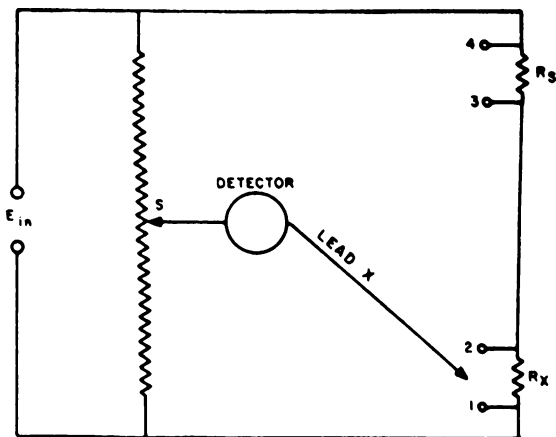

Figure 1-13. Low resistance measurement.
The Kelvin-Varley divider is used to calibrate low resistances as shown in figure 1-13. The divider setting,  $S$ , indicates the ratio of output voltage,  $E_{out}$ , to input voltage,  $E_{in}$ . The voltage from the tap of the divider to the bottom of the divider,  $E_{out}$ , is equal to the input voltage,  $E_{in}$ , times the divider setting,  $S$ . Thus, the two following equations are appropriate.
To measure the unknown resistor,  $R_x$  in figure 1-13, connect lead X to terminal 4 and adjust the divider to obtain a null on the detector. At null, the divider setting,  $S_4$ , times the input voltage,  $E_{in}$ , equals the voltage drop from terminal 4 to the bottom of the divider,  $E_4$ :
3. In figure 1-13, the following Kelvin-Varley settings are obtained. What is the value of the unknown resistance?